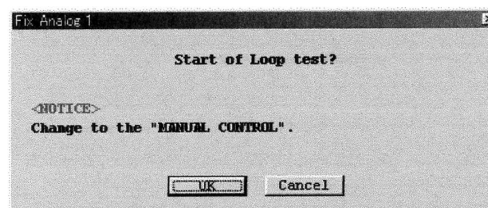

Fig.81
- ③ A message box as shown in Fig. 81 appears. If you want to use Analog Output 1 for the simulated output, click on "OK".